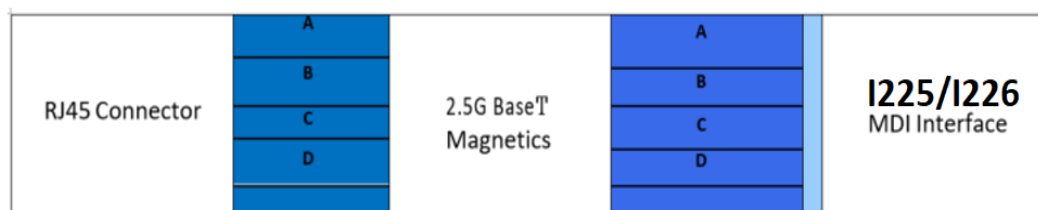

Figure 1-6 Integrated Magnetics
For the integrated magnetics, the I225/I226 designs is simple. The RJ-45 connector has Bob Smith termination and discrete magnetics integrated inside (see Figure 1-6).
- Bob Smith termination and the shield of the RJ-45 jack are both connected to chassis ground, which are the two large circular metallization in the MDI (see Figure 1-6).